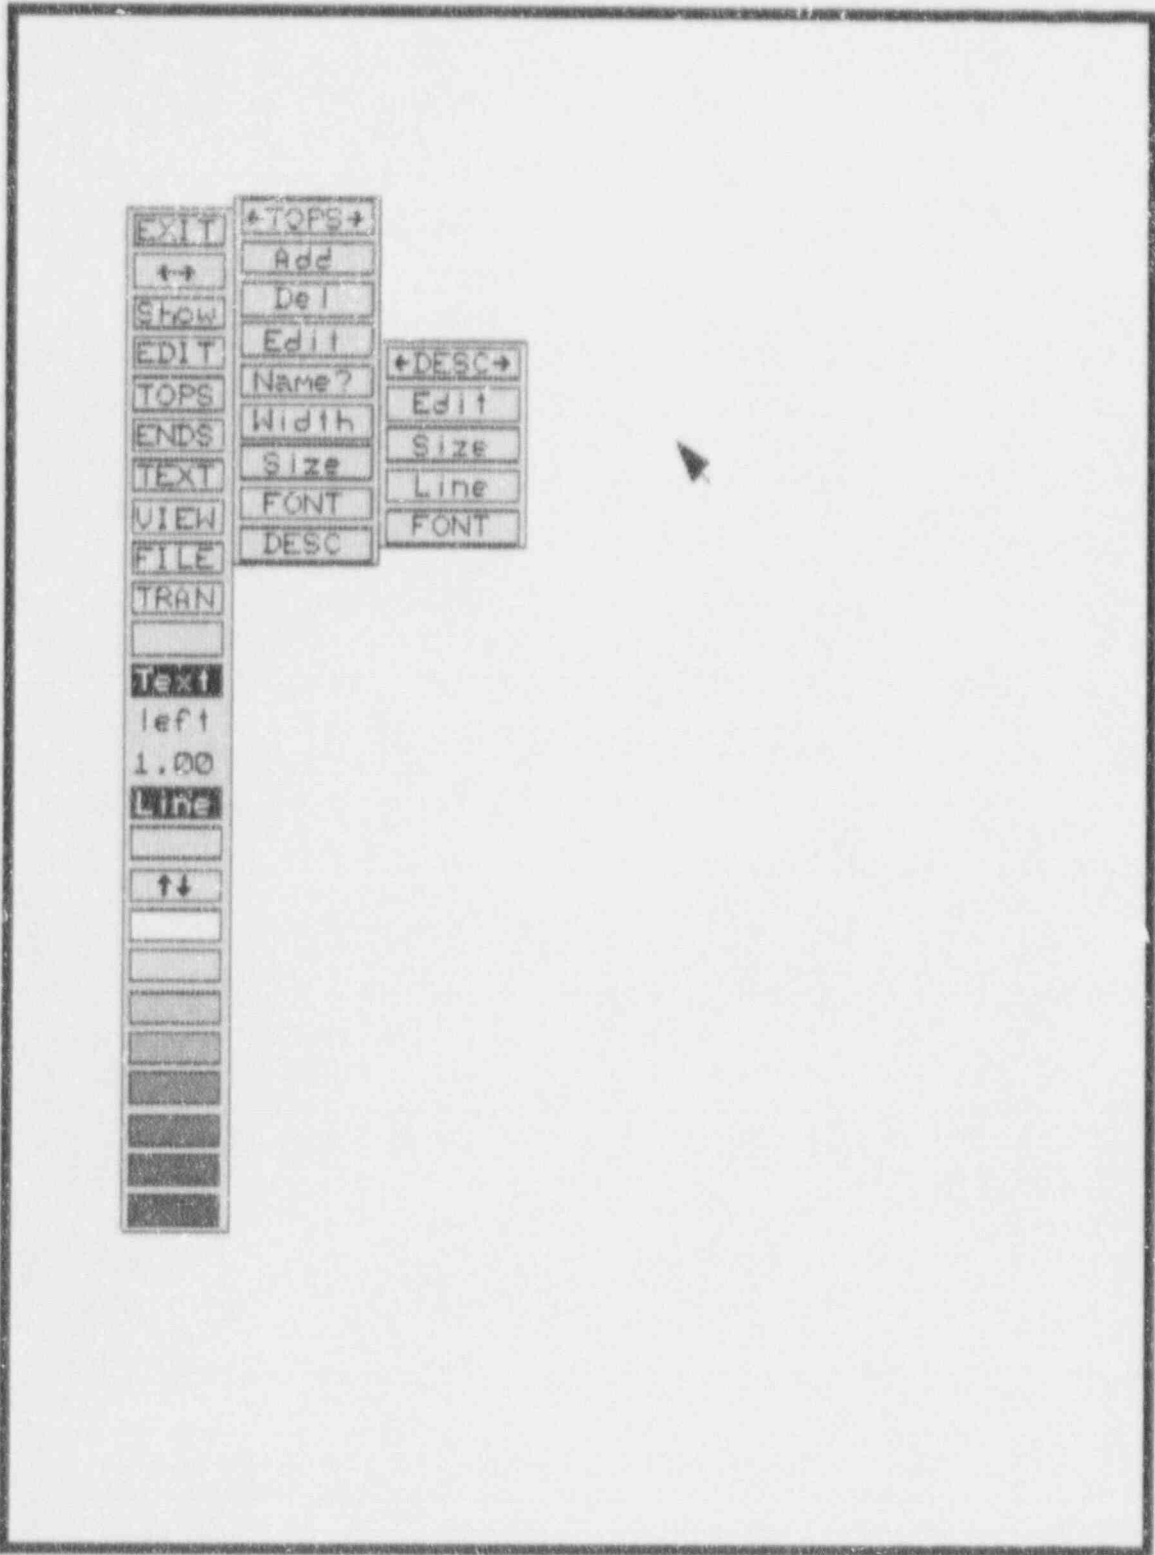

Figure 121. DESC pop-up menu.
7.2.5.9 DESC. This option allows you to edit event description text and set various attributes of the descriptions including text size, font type, and number of lines of description to display. When you invoke this option, an additional pop-up menu will be displayed (see Figure 121).